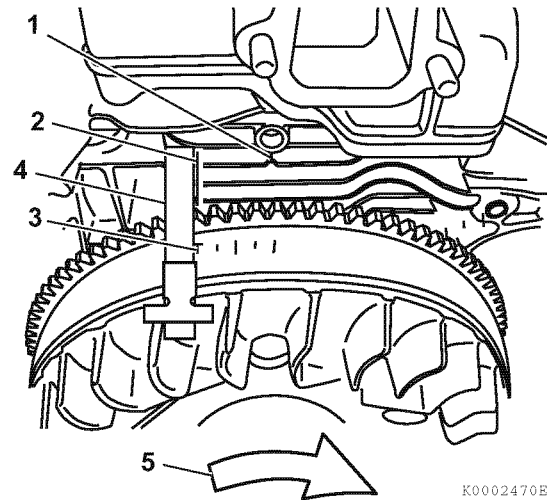

Figure 6-30
8. Carefully rotate the flywheel in a clockwise (5, **Figure 6-30**) direction to allow the piston to contact the intake valve. Measure the distance from the existing TDC mark (1, **Figure 6-30**) on the cooling fin to the TDC mark on the flywheel (3, **Figure 6-30**) (where the flywheel stopped).
10. With the piston in contact with the intake valve, use a straightedge (4, **Figure 6-30**) and scribe or fine point marker to transfer the position of the flywheel TDC mark (2, **Figure 6-30**) to the cooling fin.